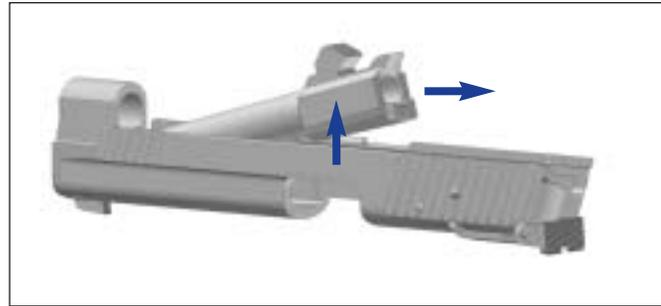

Fig. 11
9. Lift barrel 57 out of slide (Fig. 11).